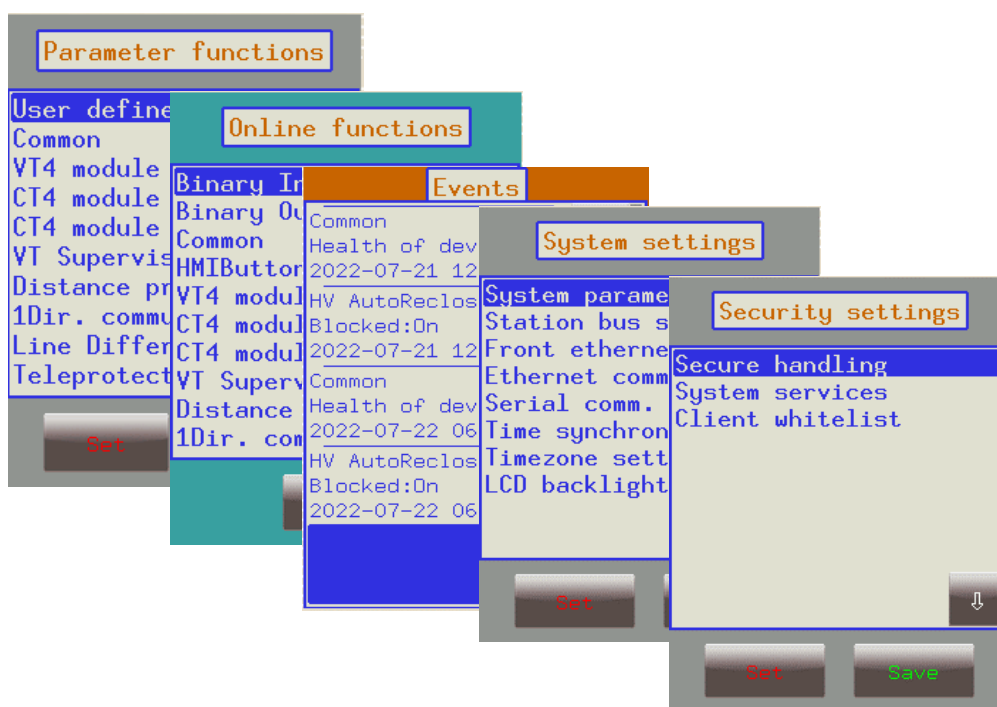

Figure 3-3 Default menu screens (excluding the home screen) displayed on the LCD
**Change screen button** - This hardware button changes the currently displayed screen for the subsequent one. The available screens and the order in which they appear by default are: the home screen, parameters, online functions, events, system settings, security settings and the custom screens which can be added by the user with the help of the EuroCAP software. The order can be changed in the LCD editor of the EuroCAP configuration tool. When pressing the “**Change screen button**” – as an example – the windows shown in Figure 3-3 below can be seen and applied one-by-one, cyclically.